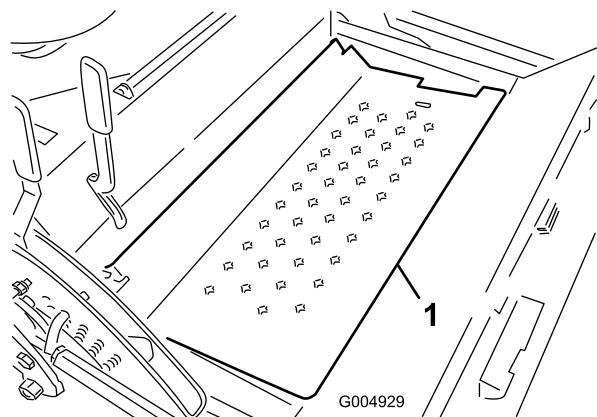

Figure 34
3. Pivot open the floor plate (Figure 34) and secure with prop rod.